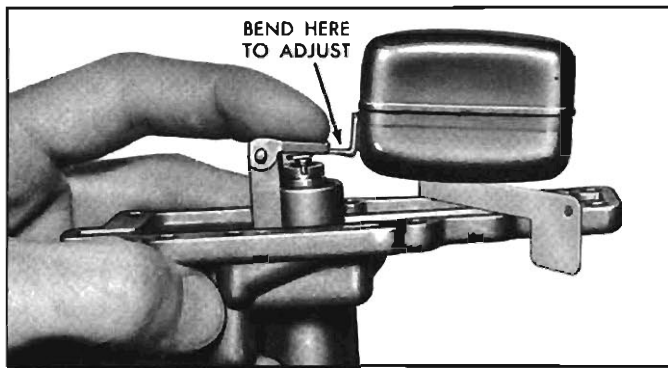

Fig. 28—Adjusting Float Level
3. Invert cover and measure the distance between cover gasket surface and float at center of float (fig. 28). This FLOAT LEVEL dimension should be $\frac{5}{8}$ " or use Tool J-21056.
4. Adjust, if necessary, by bending float arm as shown in Figure 28.